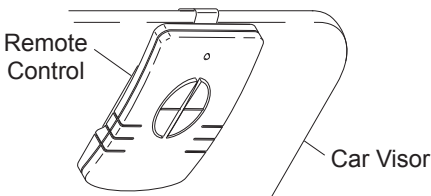

Figure 3
1. **Attach car visor clip to car visor as shown in Figure 3.**